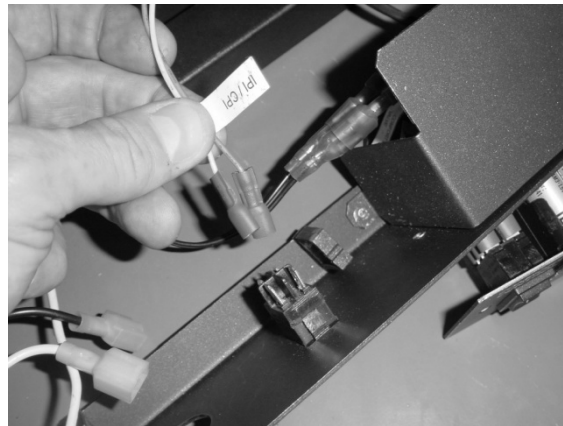

Figure 4
- 3 Unplug the ac adapter from the power harness (see Figure 4). You can leave the ac adapter plugged into the wiring harness.